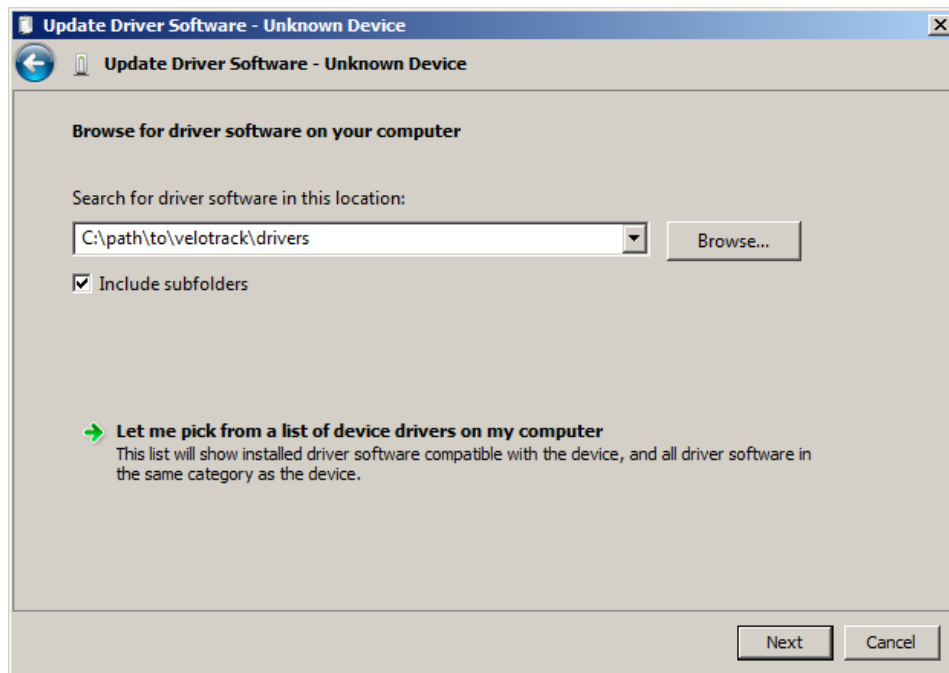

Figure 3: Enter the path to the *drivers* folder, which is a subdirectory of the velotrack folder.
4. Enter the path to the *drivers* subdirectory, which is present in the folder where the VeloTrack ZIP-archive has been extracted (Figure 3), and click *Next*.